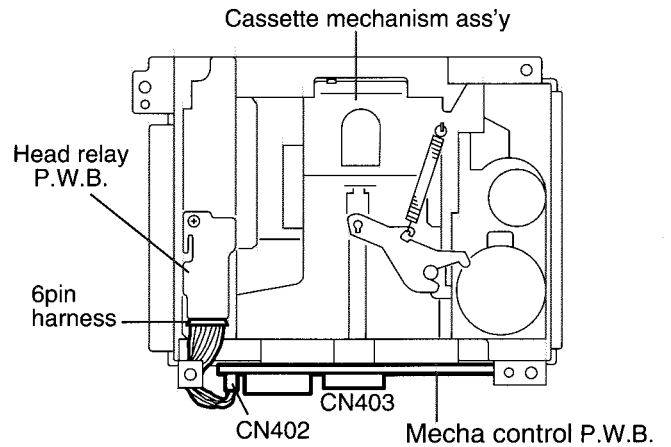

Fig.1
(See Fig.1 and 2)**
**■ Removing the cassette mechanism assembly (See Fig.1 to 3)**
1. Disconnect the 6pin harness from connector CN402 and the card wire from CN403 on the mecha control P.W.B. (Refer to Fig.1 and 2).